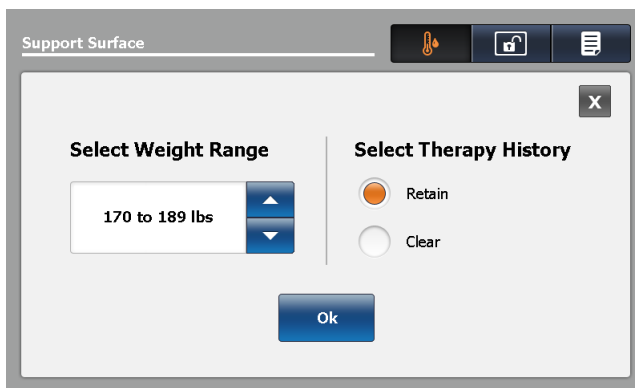

Figure 49: Surface setting screen
1. Tap the up and down arrows to select the desired weight range (Figure 49 on page 63).
Tap **Retain** to keep therapy history (see Figure 49 on page 63).
Tap **Clear** to delete therapy history (see Figure 49 on page 63).